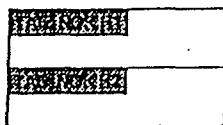

Fig. 4.3 Card Tag Number Label
- (3) Card Tag Number Label (Refer Fig. 4.3) 16 sheets
- (1) Relay I/O Card Tag Number Label (Refer Fig. 4.3) 1 sheet/card